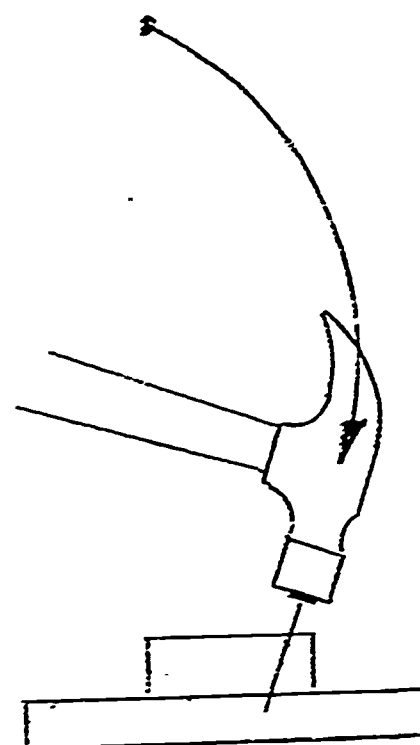

FIG. 208
4. The "claw" hammer is composed of a handle (usually wood) and the head. The head is a very important part of the hammer, it may be a casting or machined steel. The size of the hammer is determined by the weight of the head, i.e., 10 oz., 16 oz. etc. This tool is many times misused. See figures 208, 209, 210.